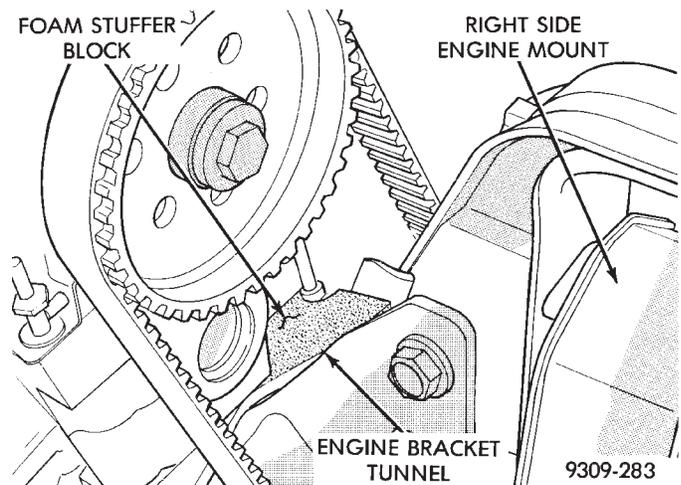

Fig. 14 Foam Stuffer Block Location
(11) Remove jack from under engine.
(12) Inspect foam stuffer block condition and position (Fig. 14). Stuffer block should be intact and secure within the engine bracket tunnel.